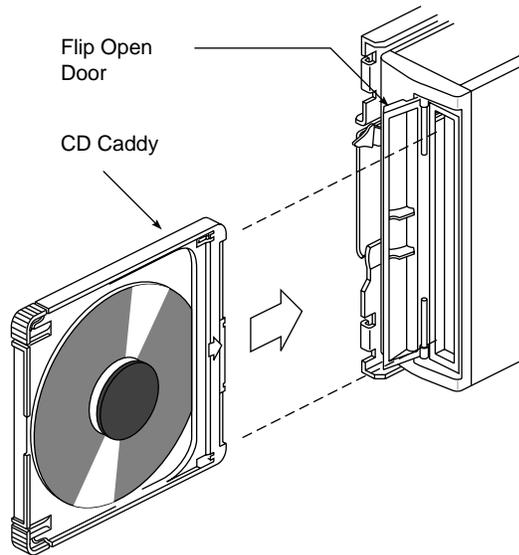

Figure 4-7 Inserting the CD and Caddy into the Drive
7. Hold the caddy by its tabs with the arrow pointing toward the CD-ROM drive (see Figure 4-7).